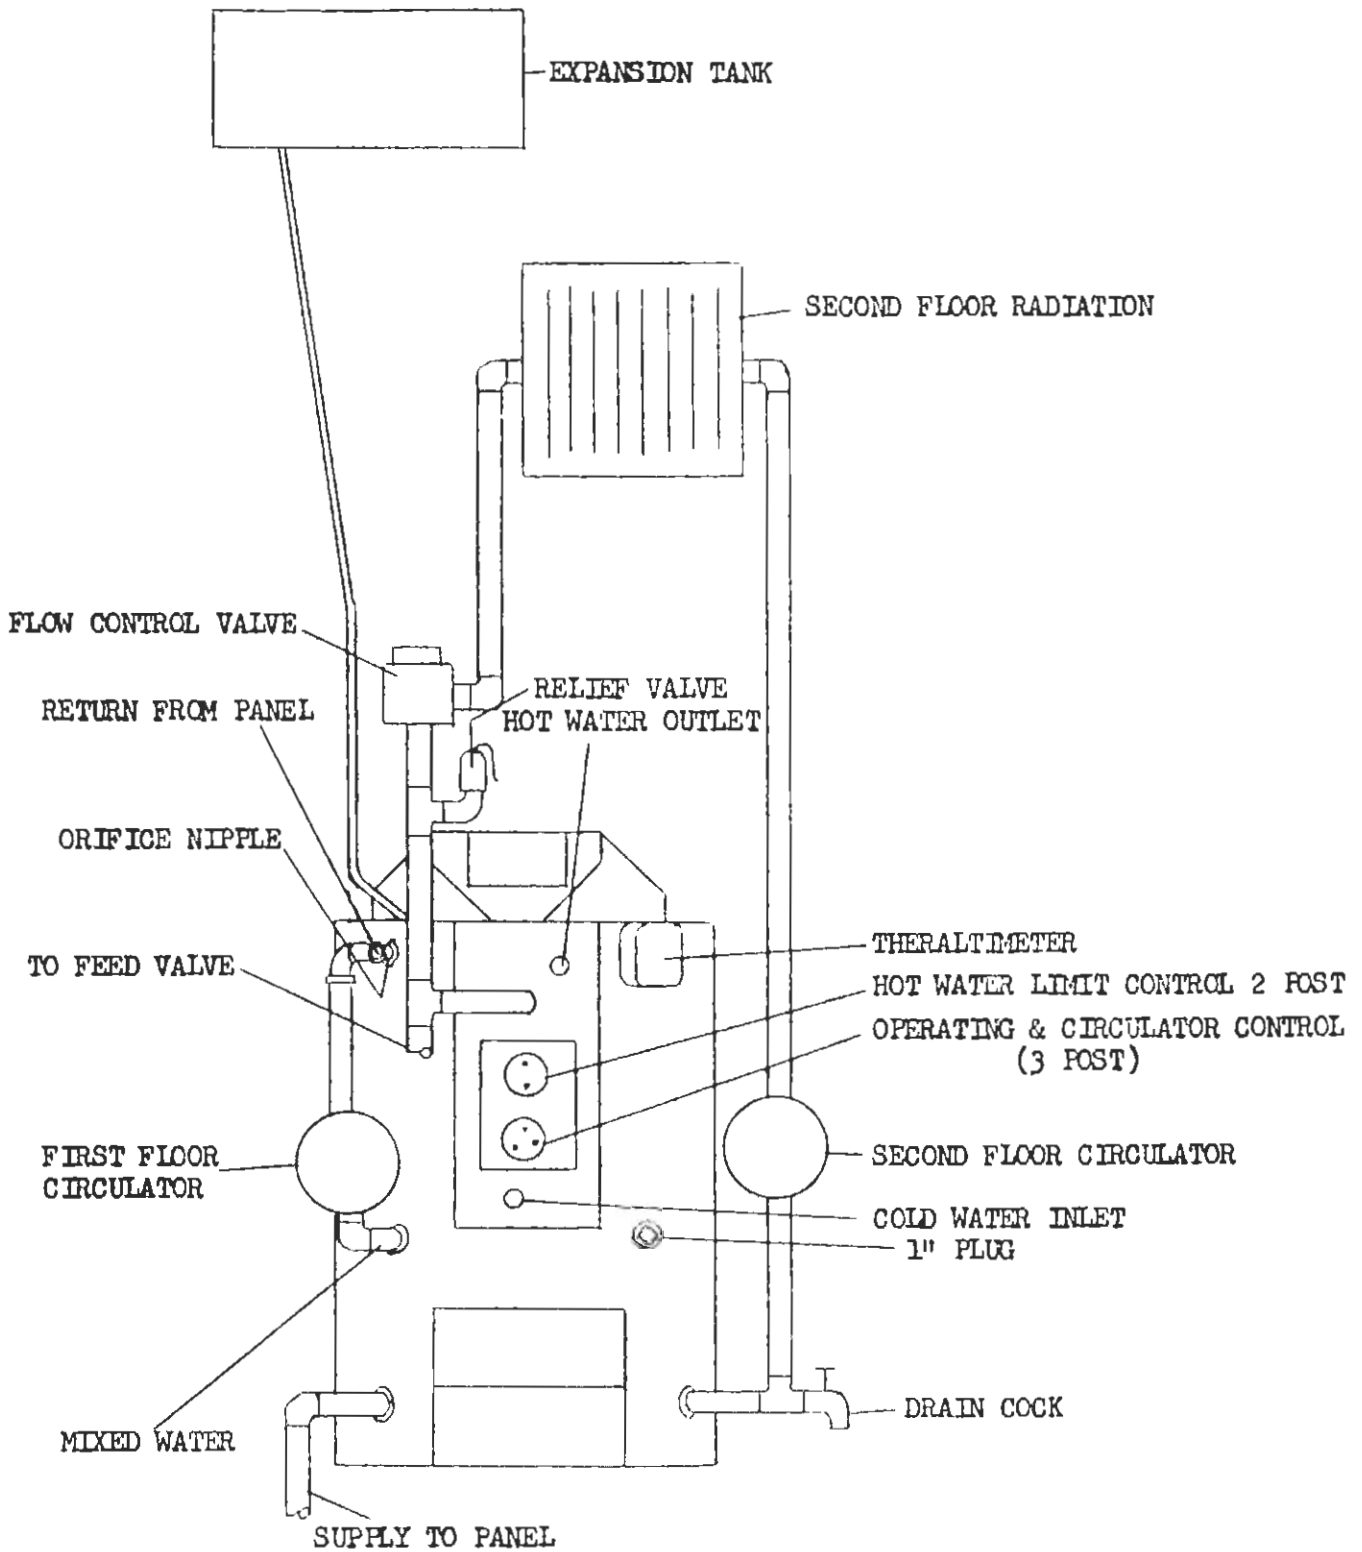

FIGURE 2
1. Fill system with water. If boiler is used with radiant system and is connected in accordance with our suggested arrangement (See Figure 2) vent air from boiler through 1/8" tapping near top. To do this disconnect bleed line until boiler is filled and water appears at 1/8" tapping on top. Reconnect bleed line. **WATER PRESSURE SHOULD BE NOT MORE THAN 5 POUNDS ON THERMOMETER WHEN BOILER WATER IS COLD.**
- E. After pilot has been lit about two (2) minutes, press button on front of Gas Valve firmly and then release. **BROWN BUTTON**
1. Fill system with water. If boiler is used with radiant system and is connected in accordance with our suggested arrangement (See Figure 2) vent air from boiler through 1/8" tapping near top. To do this disconnect bleed line until boiler is filled and water appears at 1/8" tapping on top. Reconnect bleed line. WATER PRESSURE SHOULD BE NOT MORE THAN 5 POUNDS ON THERMOMETER WHEN BOILER WATER IS COLD.
- E. After pilot has been lit about two (2) minutes, press button on front of Gas Valve firmly and then release. **BROWN' BUTTON**